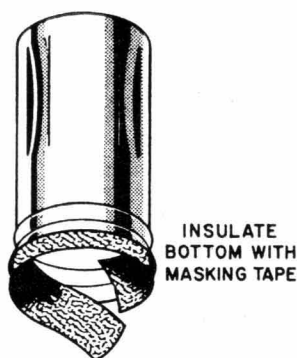
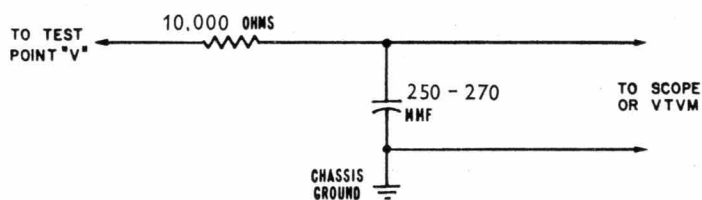
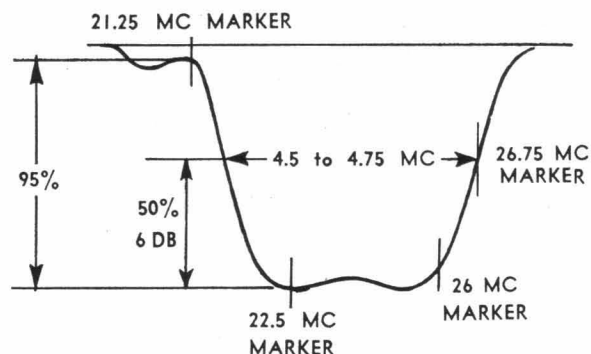
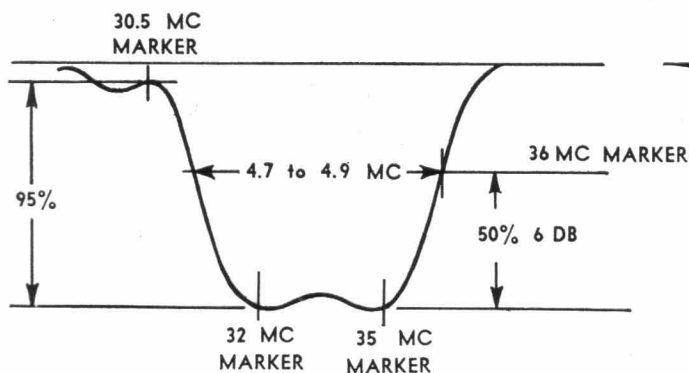

Figure 2. Special Tube Shield for IF Alignment and IF Response Curve Check.
Figure 3. Decoupling Filter.
Figure 6. Ideal IF Response Curve.
Figure 6. Ideal IF Response Curve.
(b) Be sure that a decoupling network is used at the video detector output and that the leads on the network are kept as short as possible; see figure 3.
(c) If a pad is not built in, the 12 db pad shown below in figure 3 can be constructed and connected between the generator and the antenna terminals.
3. SPECIAL TUBE SHIELD: For injecting IF Signals, use an insulated tube shield over the VHF Oscillator-Mixer tube. Insulate bottom of tube shield with masking tape, see figure 2.
- Connect generator high side to insulated tube shield of mixer; connect low side to chassis near tube shield. See figure 2.
| Set Channel Selector on channel 3 or an unassigned low channel. Contrast control fully to the left. Connect negative of 3 volt bias supply to test point "T"; positive to chassis. | Connect high side to 6J6 mixer-osc. insulated tube shield, see fig. 2. Connect low side to chassis near tube shield. Set sweep frequency to centre of IF Frequency and sweep width approximately 10-15 MC. | If an external marker generator is used, loosely couple high side to sweep generator lead on tube shield, low side to chassis. Marker frequencies indicated on IF Response Curve. | Connect high side to test point "V" through a decoupling filter, see fig. 3. | Check curve obtained against ideal response curve in fig. 6. Note tolerances on curve. Keep marker and sweep outputs at very minimum to prevent overloading. A reduction in sweep output should reduce response curve amplitude without altering the shape of the response curve. If the curve is not within tolerance or the markers are not in the proper location on the curve, touch-up with IF slugs as instructed below. IMPORTANT: If curve changes shape with hand capacity, see section 1 of "Important Alignment Hints". |
| Set Channel Selector on channel 3 or an unassigned low channel. Contrast control fully to the left. Connect negative of 3 volt bias supply to test point "T"; positive to chassis. | Connect high side to 6CG8 mixer-osc. insulated tube shield, see fig. 2. Connect low side to chassis near tube shield. Set sweep frequency to centre of IF Frequency and sweep width approximately 10-15 MC. | If an external marker generator is used, loosely couple high side to sweep generator lead on tube shield, low side to chassis. Marker frequencies indicated on IF Response Curve. | Connect high side to test point "V" through a decoupling filter, see fig. 3. | Check curve obtained against ideal response curve in fig. 6. Note tolerances on curve. Keep marker and sweep outputs at very minimum to prevent overloading. A reduction in sweep output should reduce response curve amplitude without altering the shape of the response curve. If the curve is not within tolerance or the markers are not in the proper location on the curve, touch-up with IF slugs as instructed below. IMPORTANT: If curve changes shape with hand capacity, see section 1 of "Important Alignment Hints". |